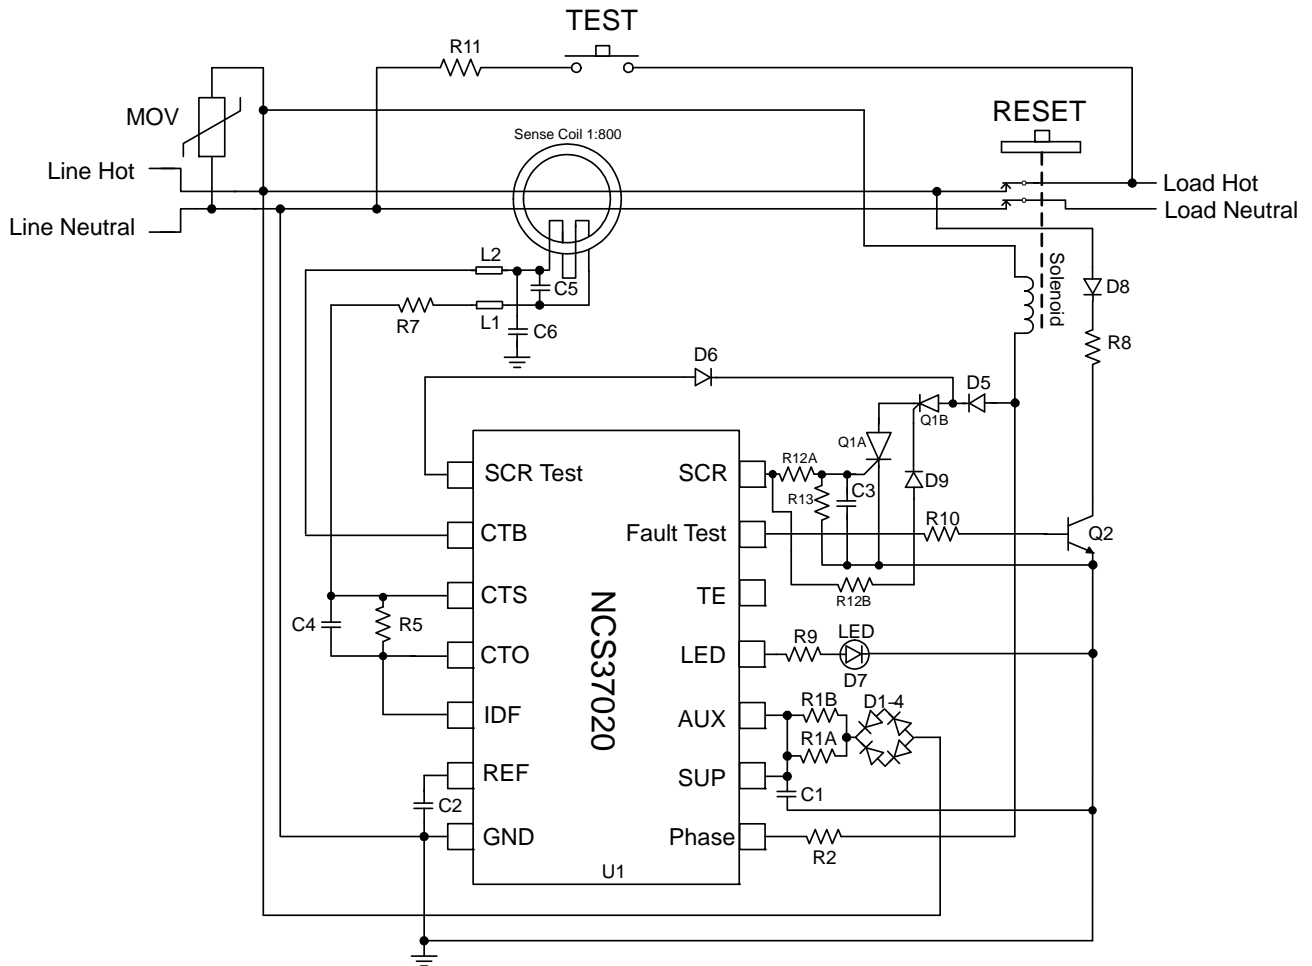
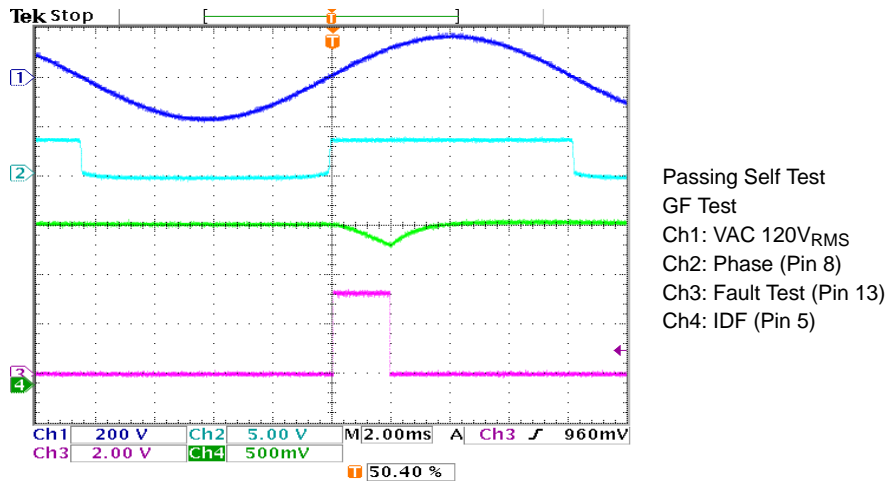
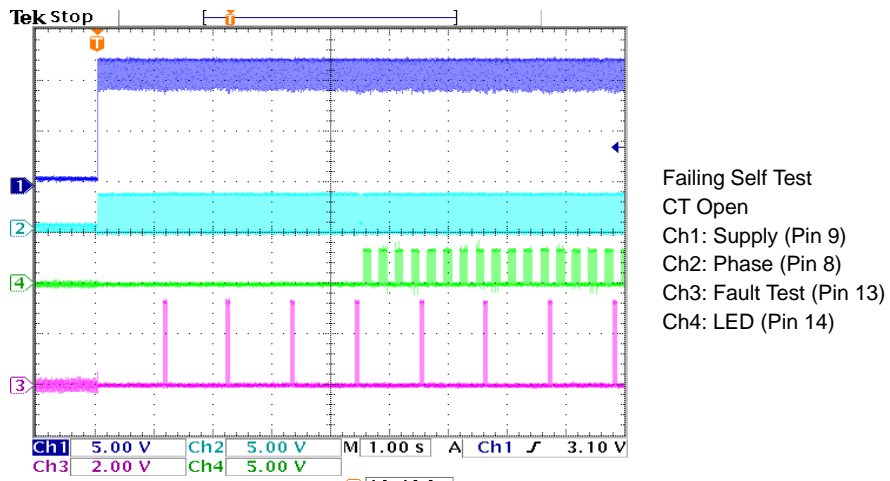
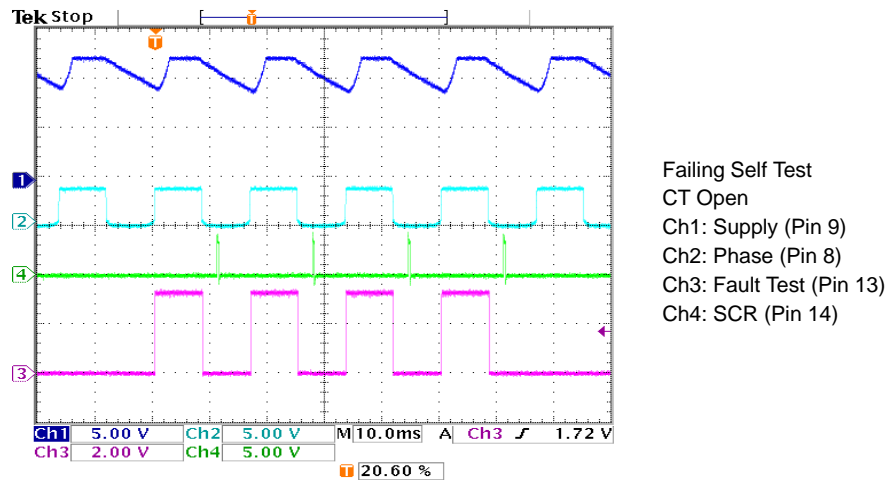

Figure 2. ALCI Application Diagram*
Figure 4. Passing Self Test – GF
Figure 6. Failing Self Test – CT Open
Figure 7. Failing Self Test – CT Open
Table 4. OPERATING RANGES (Unless otherwise noted, ISUP = 3 mA, Phase input = 60 Hz, Refer to Figure 2)
Functional Description (refer to application circuit, Figure 2)
The internal shunt regulator clamps the SUP pin voltage at 12 volts. This provides the bias voltage for the analog and digital internal circuitry via two 3.3 V linear regulators. The NCS37020 controller can be biased full wave or half wave. Figure 2 shows a half wave bias application. Half wave bias allows for lower wattage bias resistors (R1A and R1B) and less redundant bias diodes. The D1–4 diodes are biased so that only during the positive half cycle the capacitor C1 will be charged to 12 volts. During the negative half cycle, C1 will supply the bias current for the NCS37020. To minimize the NCS37020 bias current during the negative half cycle, the SCR and LED outputs will only be enabled during the positive half cycle. The D1–4 diodes and R1A–R1B resistors include redundant components to pass the UL943B standard.
The first self-test (ST) cycle will occur at one second and thereafter every 12 minutes. During the ST cycle, the Fault Test pin will be enabled during the positive half cycle and the CT current (set at 12 mA, R8) will be verified. During the next negative half cycle, the SCR’s anode voltage will be pre-biased by the SCR Test pin to 3.3 volts. The SCR will then be enabled and the SCR’s anode voltage will be monitored by the SCR Test pin. If the anode voltage goes below 2.1 volts, the SCR will be disabled after a 400 μ s verification check and the ST logic will register a passing ST cycle. Figure 2 shows two SCRs in series. A redundant SCR is required during the SCR anode to cathode short test to prevent the solenoid from burn out damage. The SCR self-test cycle will fail if either SCR Q1A or Q1B are open. If either Q1A or Q1B are shorted (anode to cathode) the ST cycle will pass, however, the GF function will also function correctly. The next ST cycle will occur in 12 minutes. Note that when the SCR is enabled, the blocking diode D5 will prevent the solenoid from being energized and opening the load contacts. If either the GF (ground fault) or SCR self-test cycles fail, these self-test cycles will be repeated for up to three more consecutive cycles. If any consecutive GF and SCR tests pass, the ST logic will register a passing self-test cycle. If all four ST consecutive cycles fail, a ST cycle will be repeated at 2, 3 and 4 seconds for a total of 16 self-test cycles. If all 16 ST cycles fail, a ST EOL fault will occur. The SCR will be enabled for four consecutive positive half cycles, then the LED will blink at 4 Hz. The LED will only be biased during the positive AC half wave cycle. The SCR will be enabled for one positive half cycle every 4.5 seconds. A self-test cycle will occur every second. If a self-test cycle passes, the ST EOL logic will be reset (power on reset state). If a ground fault is detected during a ST EOL state, the EOL logic will be reset. This allows for resetting the ST EOL state by pressing the manual test button when the load contacts are closed.
Figure 4 shows a passing self-test ground fault test. This test checks for the CT and bias circuitry. Channel 1 shows the VAC 120 V_{RMS} , 60 Hz Line Voltage. Channel 2 shows the positive and negative phase half wave cycles. Channel 3 shows the Fault Test signal and channel 4 shows the IDF signal (CTO output). The self-test cycle starts in the positive half wave cycle. The Fault Test pin goes high and Q2 (Figure 2) is enabled. Enabling Q2 generates a GF signal via R8. The IDF signal is the CTO amplifier output which is a GF current to voltage signal per the equation on the previous page. When a 5 to 15 mA GF signal is detected, a “passing GF test” is recorded and the Fault Test signal is disabled.
After a passing self-test cycle per Figures 4 and 5, the next ST cycle will occur in 720 seconds.
Figure 6 shows a failing ST cycle for an open CT. Channel 1 shows the NCS37020 supply voltage. Channel 2 shows the phase pin. Channel 3 shows the Fault Test signal and channel 4 shows the LED (End of Life) signal. The first four consecutive ST cycles occur at about 1.1 seconds, then at 2.2, 3.3 and 4.4 seconds. After the 16th consecutive cycle failure, the SCR is enabled for four positive half cycles and then the LED is enabled.
Figure 7 also shows a failing ST cycle for an open CT. It is a zoom figure for the first four consecutive ST cycles. It shows the same waveforms as Figure 6 but channel 4 shows the SCR pin. Comparing Figure 7 with Figure 4, it can be observed that the Fault Test pin is enabled for the complete positive half wave cycle because no GF signal is detected by the NCS37020.